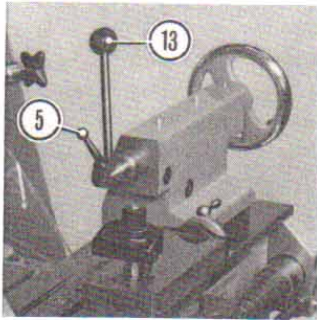

Fig. 25
The Tailstock is securely locked to the bed by the quick-acting clamp lever which is located at the rear of the tailstock (13), Fig. 25.